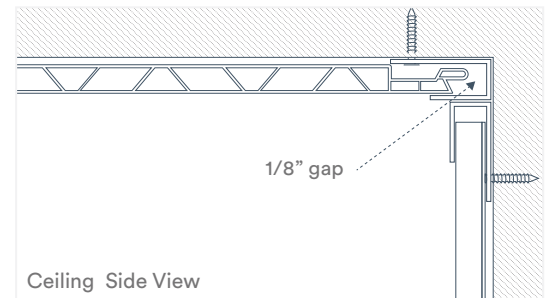

Fig. 8
3. Leave a 1/8" gap between the tongue side of the panel and the adjoining trim. Fasten a minimum of once every 24" with the appropriate recommended screws. Remember to leave 1/4" of clearance at both ends of the panels for expansion and contraction (Fig. 8). Remember not to over tighten your screws.